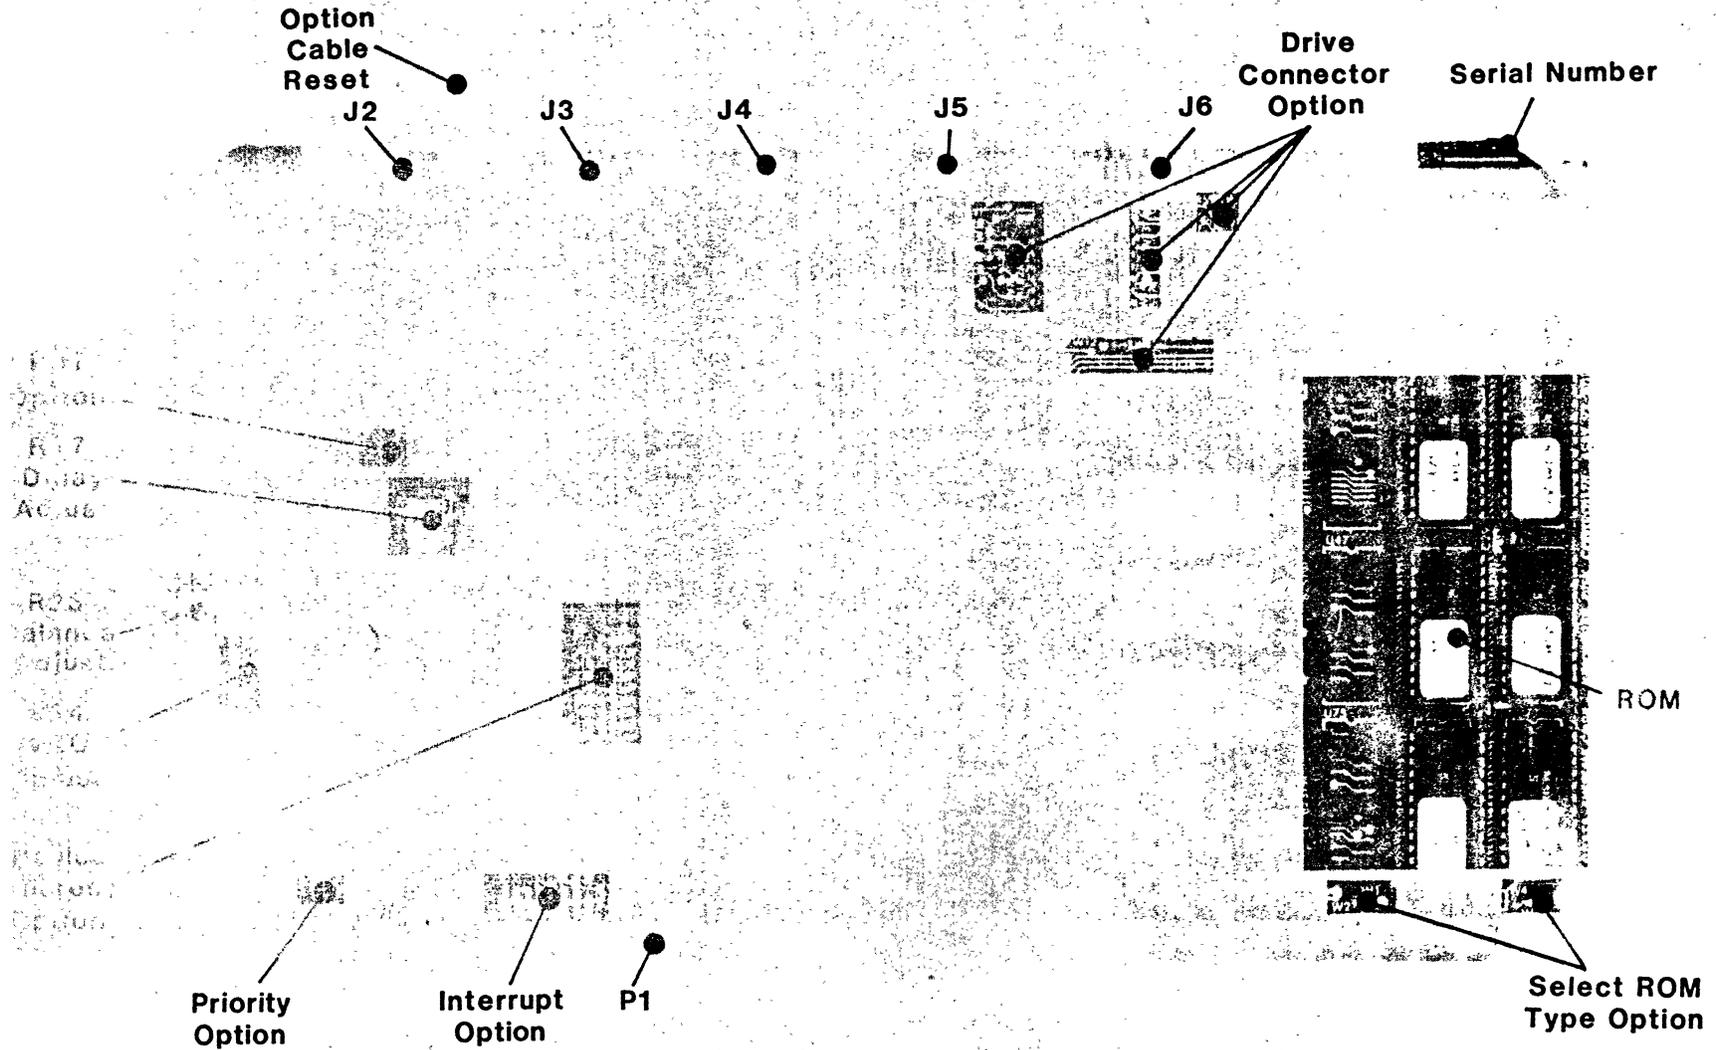

Figure 2-1 – Winchester Disk Controller – 92-1011-xx
| 1. | GENERAL | 3 | Figure 2-1 — Winchester Disk Controller — | |
2.01 The Winchester Disk Controller (WDC) 92-1011-xx is an integrated system component incorporating all the necessary component parts to provide the Mainframe with a single PCA Controller. Figure 2-1 illustrates the WDC. The PCA contains:
2.04 Several alternate features can be configured through option jumpers on the PCA. Refer to Figure 2-1.
Refer to Figure 2-1 for the locations of these adjustments.